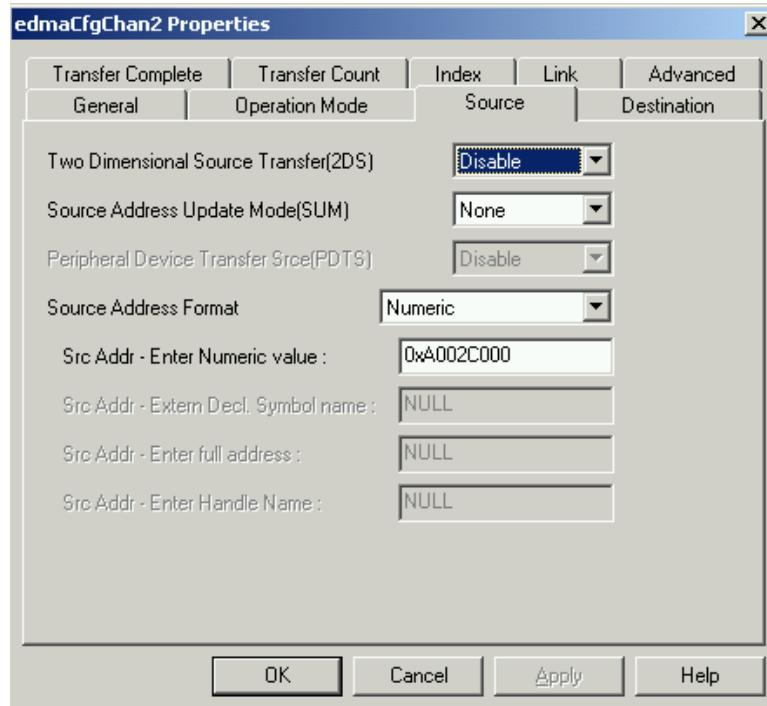

Figure 4. EDMA Chan2 Source Tab Options
3. In the Source tab, select the options as shown in Figure 4. The 16-bit reads are from address 0xA002C000. Toggling these particular address lines causes the decoder to generate a $\overline{\text{CONVST}}$ pulse.